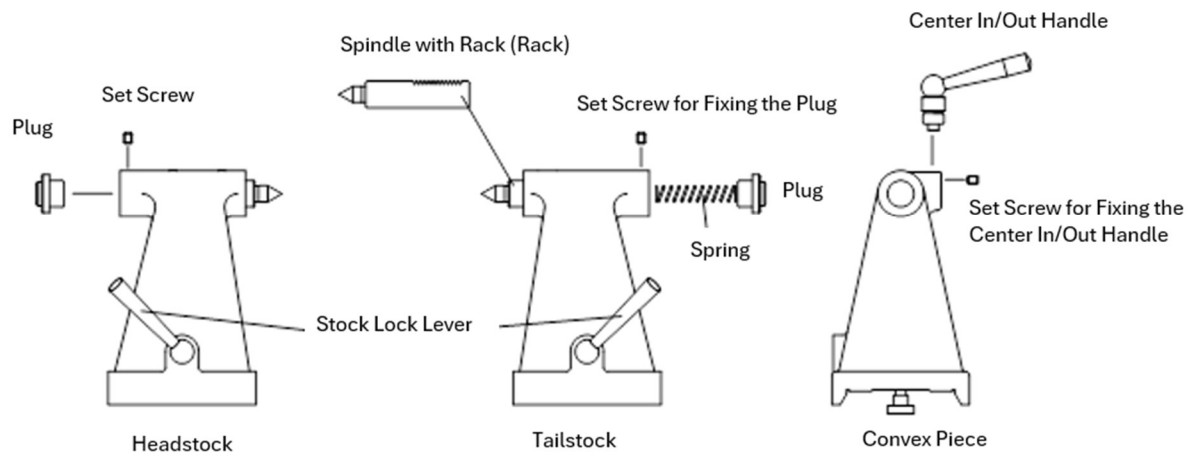

Figure 3. Adjustment of the Convex Piece and the Center In/Out Handle
- ① As shown in Figure 3, loosen the set screw for fixing the plug and remove the plug.